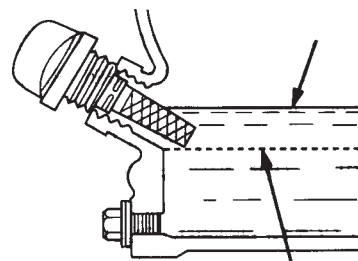

Figure 14. Engine Oil Dipstick (Oil Level)
4. If the oil level is low (Figure 14), fill to the edge of the oil filler hole with the recommended oil type (Table 3). Maximum oil capacity is 0.48 quarts (.45 liters).